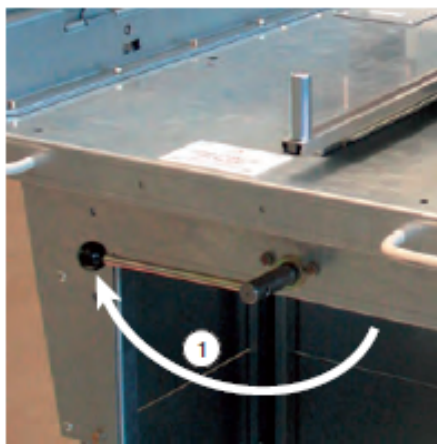

Figure 32
2. Turn lever to the left (Figure 32, 1).